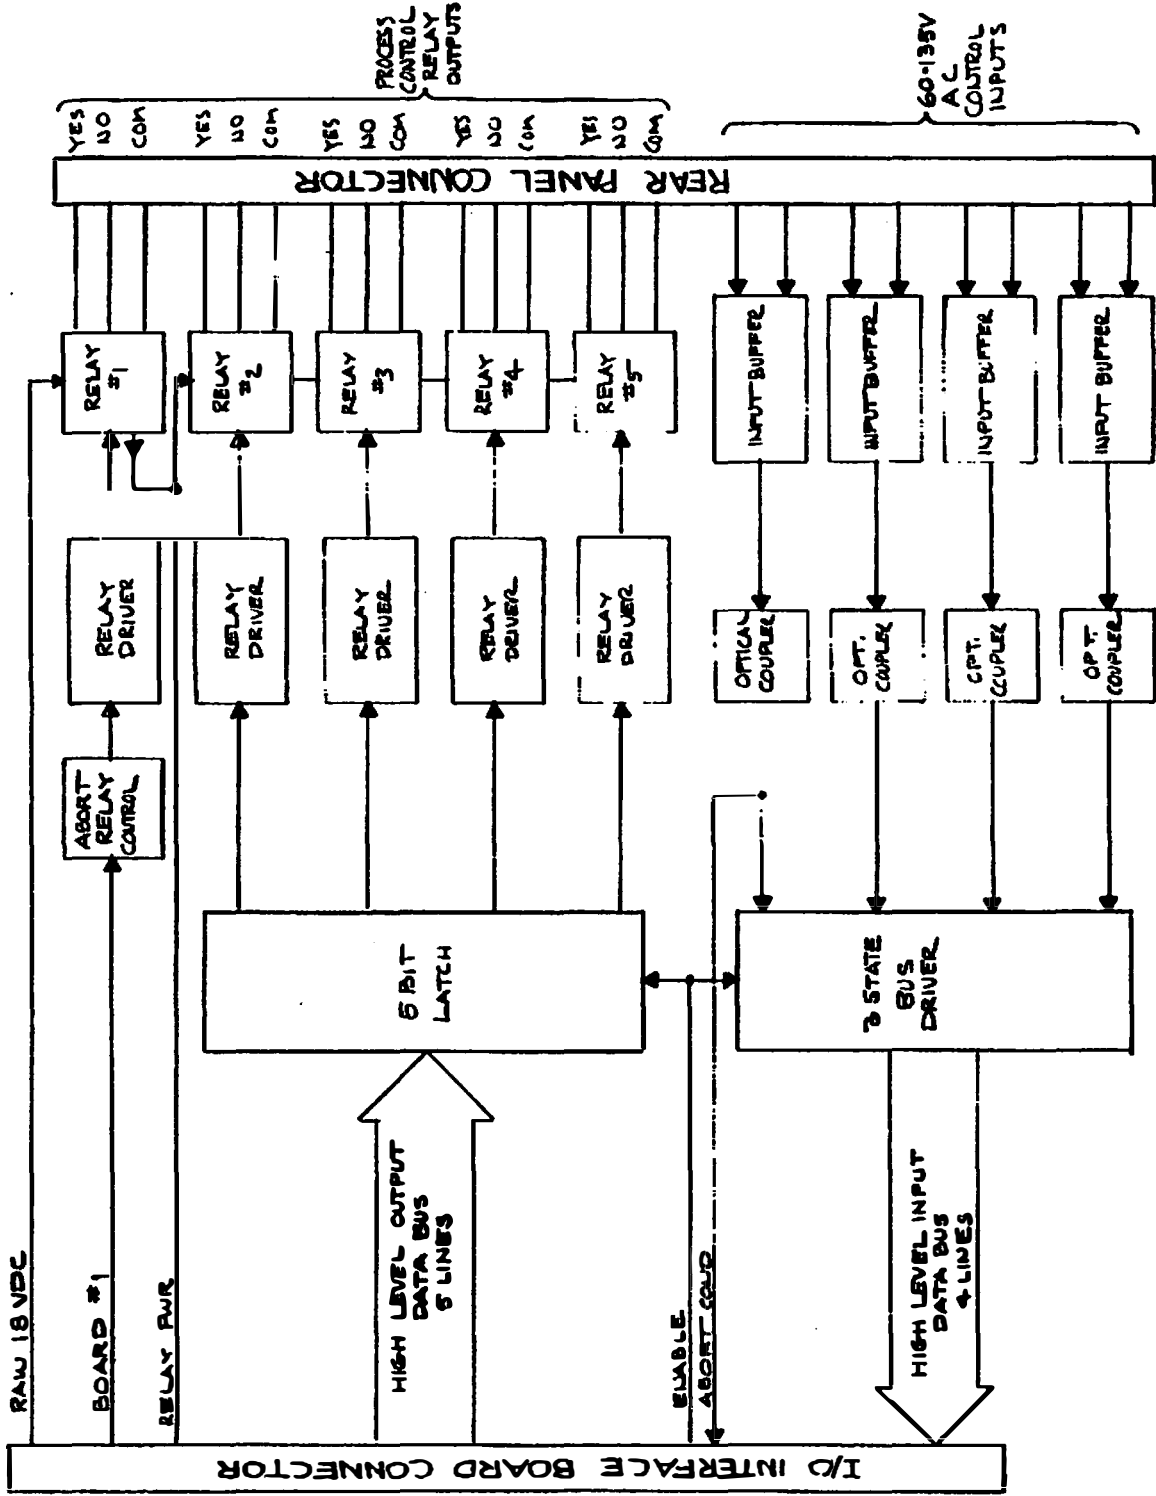

Figure 8-5 Discrete I/O Board, Block Diagram
- d) DISCRETE I/O BOARD: A block diagram of the Discrete I/O board is shown in Figure 8-5. The board provides five discrete relay outputs and four discrete inputs. A 5-bit latch is periodically updated from data appearing on the High Level Output bus. The five outputs drive relay drivers which in turn drive the output relays.